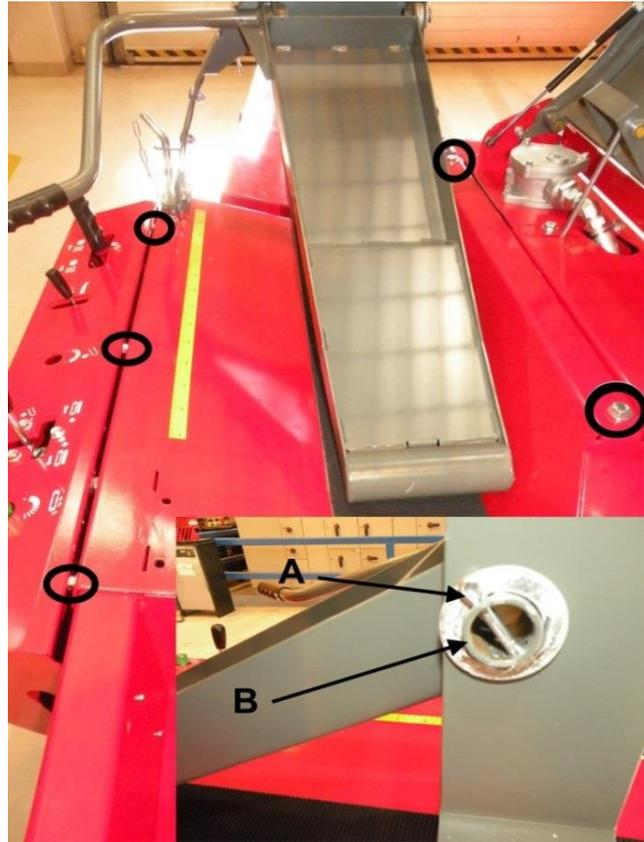

Figure 17
2. Remove log press locking pin **A** and pin **B** (Figure 17). Remove the entire log press as well as the fastening bolts (5 pcs) and detach the guard.